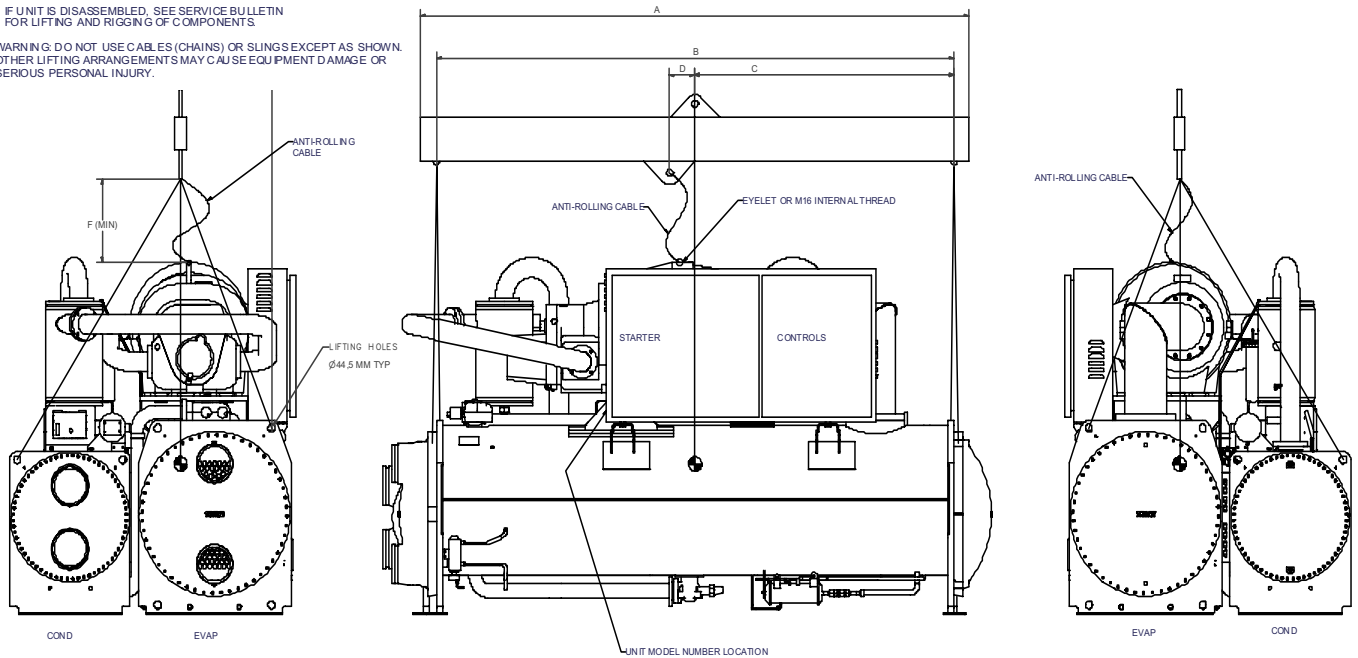

Figure 6 Lifting the Unit
2. Rig the unit properly and lift from above or jack the unit (alternate moving method). Use the points shown on the rigging diagram that ships with the unit as shown in Figure 6. Remove the base mounts.
3. Install clevis connectors in lifting holes provided on the unit. Attach lifting chains or cables to clevis connectors as shown in Figure 6. Each cable alone must be strong enough to lift the chiller.
4. Attach cables to lifting beam. Total lifting weight, lifting weight distribution and required lifting beam dimensions are shown in the rigging diagram shipped with each unit and in Figure 6. The lifting beam crossbar must be positioned so the lifting cables do not contact unit piping or electrical panel enclosure.